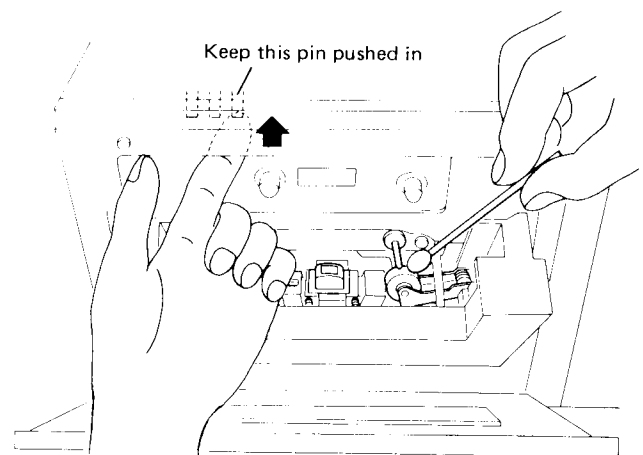

Fig. 3
5. Depress the DIRECTION switch to the forward mode and then depress the PLAY switch while pushing in the third pin from the left on the top of the cassette holder. The forward direction pinch roller (on the right side) will come up and begin to rotate. Clean the pinch roller and capstan as they rotate (Fig. 3).